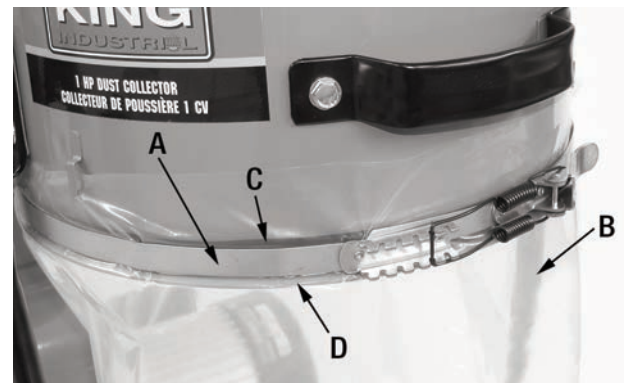

FIGURE 13
11. Position the retainer strap (A) Fig.13 over the bottom transparent dust bag (B) and the adhesive foam gasket (C), fasten the retainer strap to the lower lip of the filtration housing (D).